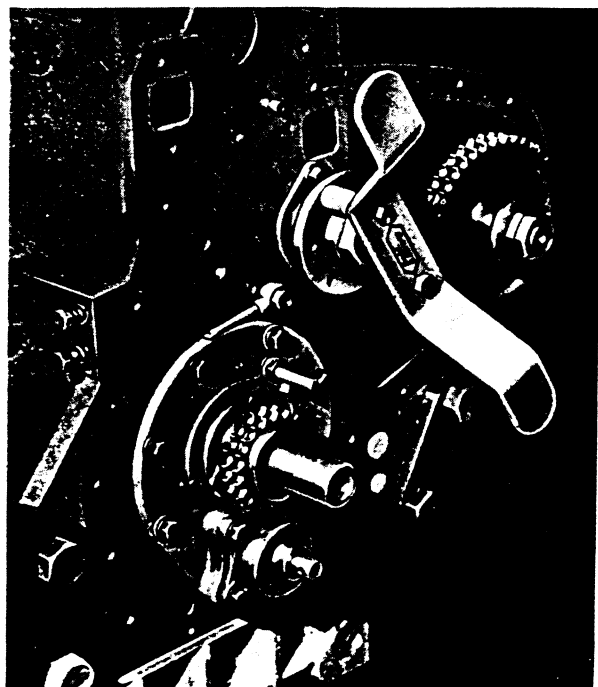

FIG. 132.
If timing mechanism lubricating pipes, shown in Fig. 132, are removed, care must be taken to ensure that they are replaced securely with oil holes suitably directed towards the timing chain and jockey chain wheel. At engine No. SA.5614E a drilled stud with lock nut and lead liner replaced the copper pipe previously fitted on the front bearing housing.
2. To facilitate rotating the camshaft, fit Service Tool FT.117, Fig. 132, on face of camshaft centre and set all valve tip clearances to .012" (.305 mm.) Check and reset decompression cams as required, see page C109.
2. To facilitate rotating the camshaft, fit Service Tool FT.117, shown in Fig. 132 on face of camshaft centre.